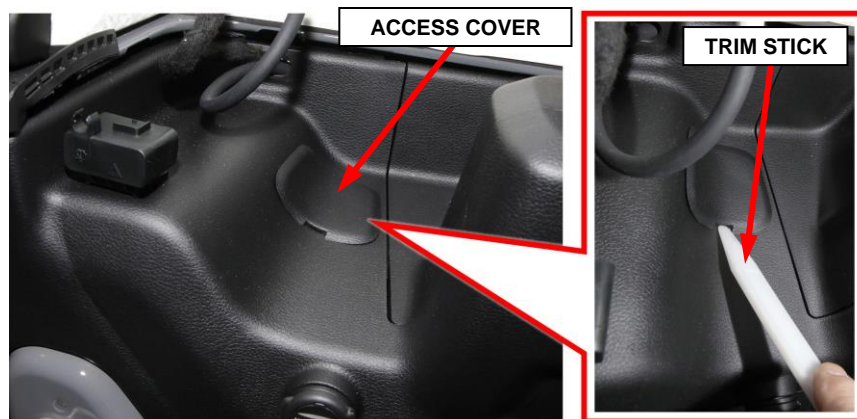

Figure 2 – Tail Lamp Bolt Access Cover
3. Using a trim stick, remove the tail lamp bolt access cover (Figure 2).
13. Install the access cover over the tail lamp bolt and make sure it is engaged securely (Figure 2).